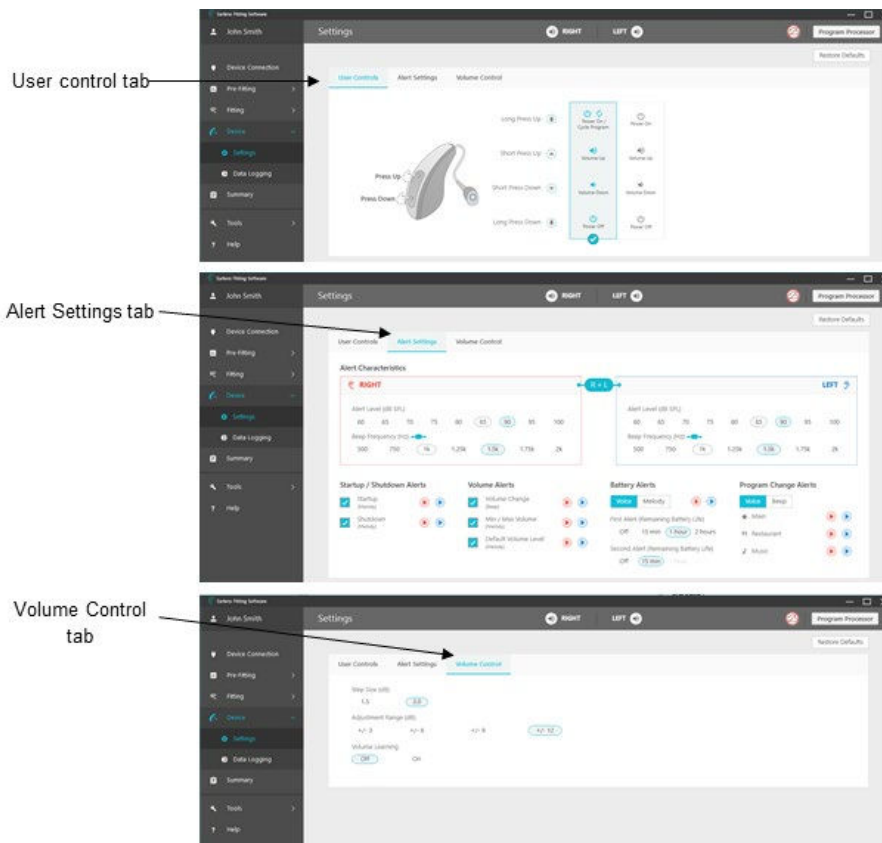

Figure 18: Device Settings: user control, alert settings, and volume control tabs.
- **Device Settings:** Set the User Control configuration on the Processor, customize Alert Settings, and change Volume Control settings (Figure 18).